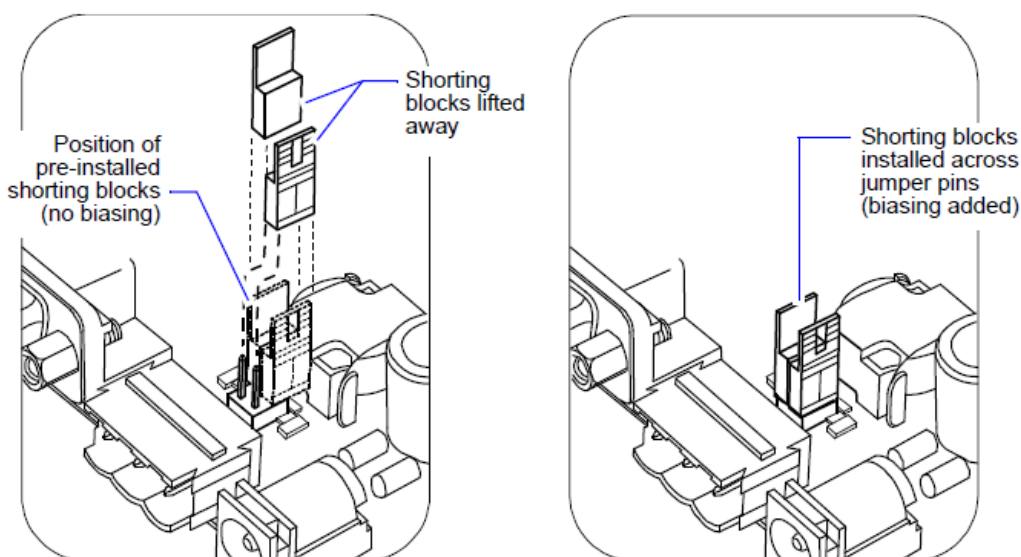

Figure 12: Installing Shorting Blocks across Both Sides of Jumper Block
1. Locate the four jumper pins behind the RS-485 port, with 2-pin shorting blocks installed on one pin each. See Figure 12.
2. To add biasing, remove and replace both shorting blocks back onto the jumper pins (Figure 12).
1. Carefully replace the processor module board onto the 50-pin connector, with its corner mounting holes aligned on the four lower standoffs. Press down on the connector to fully seat the board. See Figure 12.